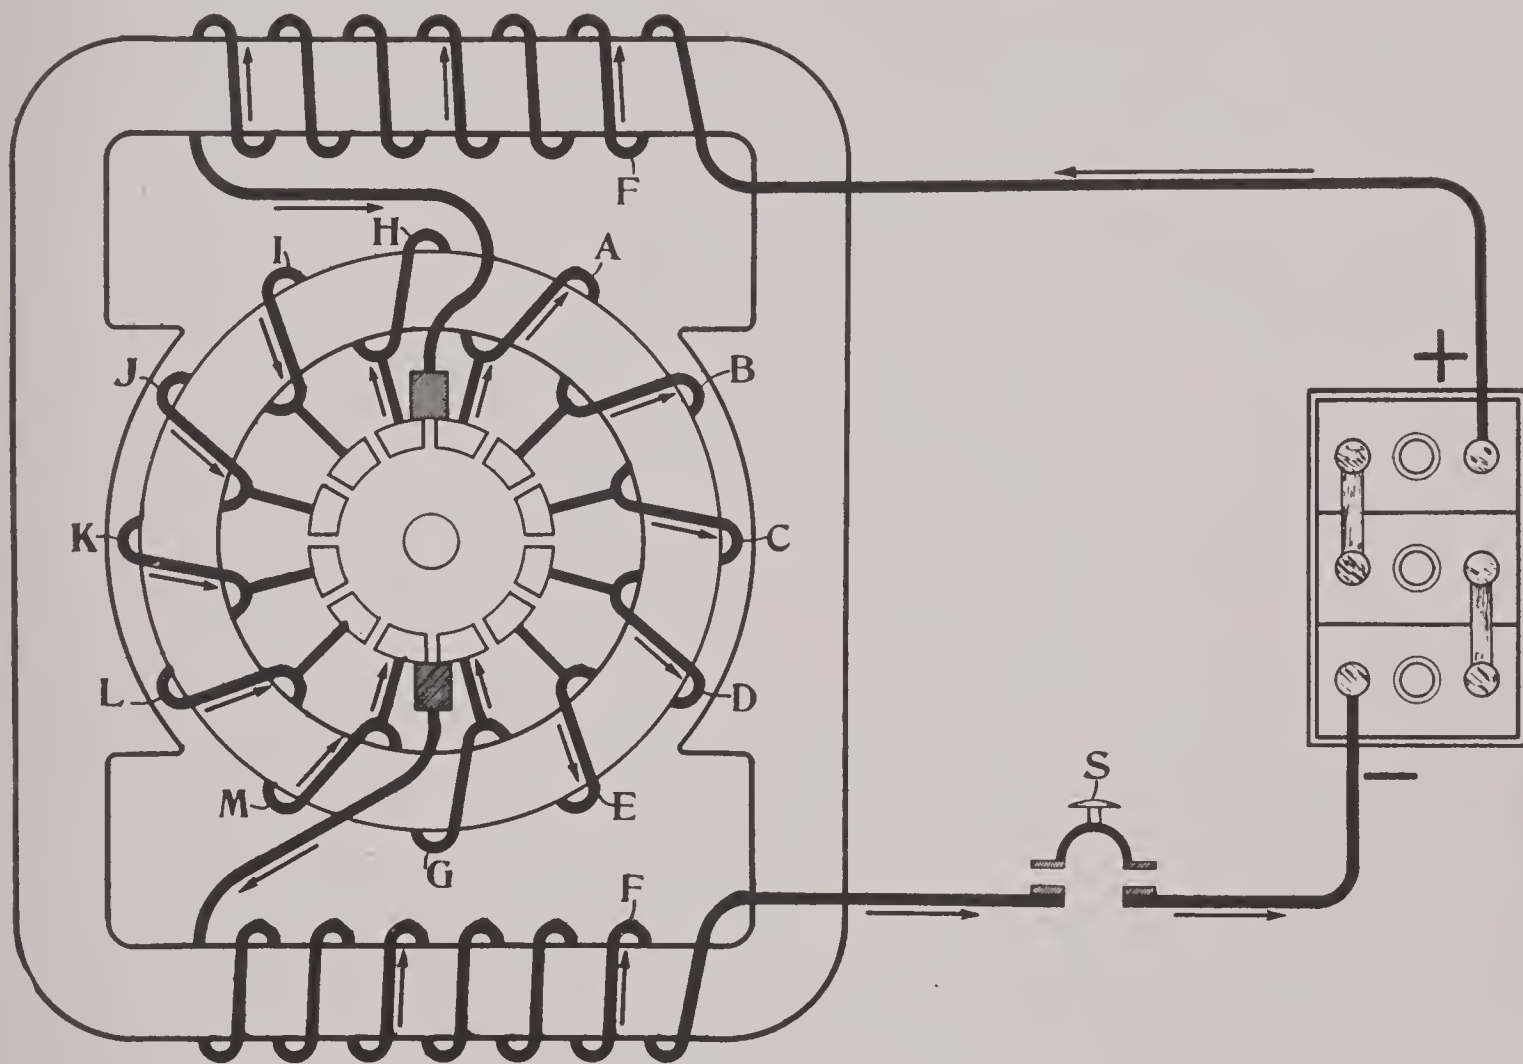

FIG. 283
There are two kinds of field coils—series and shunt. The series field coils are of comparatively few turns of heavy wire, sometimes copper ribbon, and are connected in series with the armature. The resistance of series field coils is very low. Shunt field coils are many turns of comparatively small wire and are connected in parallel with the armature. The resistance of shunt field coils is usually several ohms. Fig. 283 shows a machine with series field coils. The arrows show the direction of flow of current through the field coils and the armature when the machine is run as a motor. Machines having only
Fig. 283 shows a series wound machine with a ring wound armature. When the switch (S) is closed the E. M. F. of the battery causes current to flow through the field coils (F) and through the armature. The current flowing through the field coils magnetizes the poles and so sets up the field. The current in the conductors as they pass positions (A), (B), (C), (D) and (E) flows in, or away from observer, and as they pass positions (I), (J), (K), (L) and (M) it flows out or towards the observer. The conductors as they pass positions